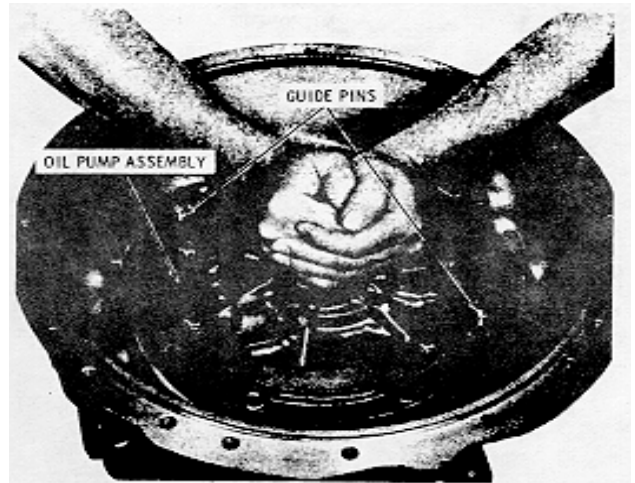

Fig. 7-27. Installing oil pump assembly
(5) Install two 5/16-18 headless guide bolts into two opposite holes in the gasket and transmission housing (Fig. 7-27).
(6) Grasp the oil pump assembly by the stator shaft and lower it into the transmission housing (Fig. 7-27). Be sure the support bottoms.